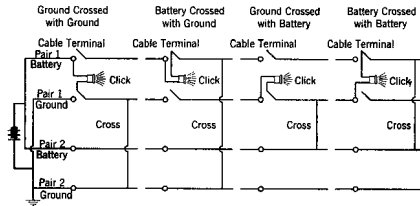

FIGURE 8. Tests to Locate Crosses
6.03 *Common Battery Circuits—Locating Crosses in the Drop and Block Wire Plant*—In isolating a cross to a portion of the plant such as to the drop or block wire plant or to a portion of a drop or block wire, make the following test: See Figure 8.